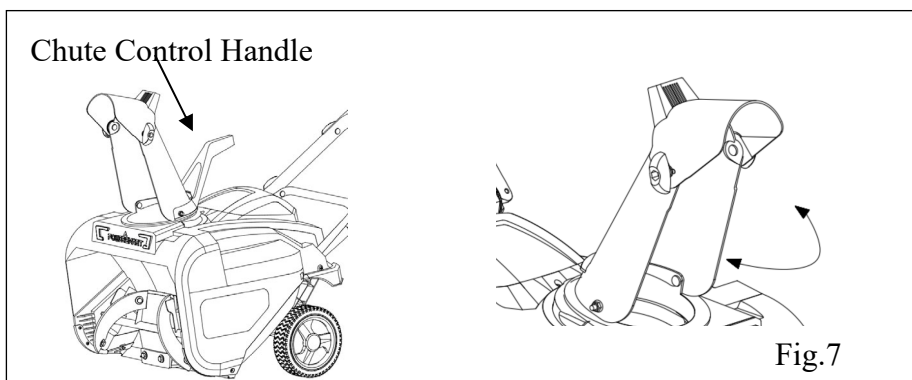

Fig.7
2. You can adjust chute direction by pushing the chute control handle in chute. (Fig.7)